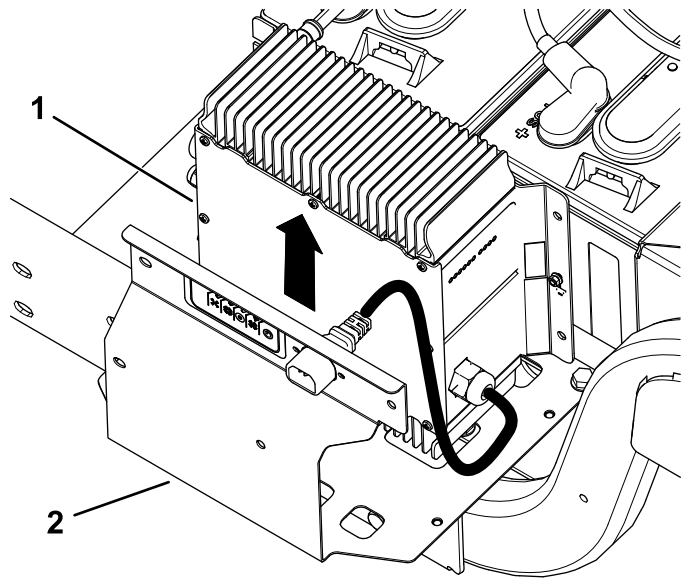

Figure 5
2. Remove the charger and the charger cable from the charger bracket (Figure 5).